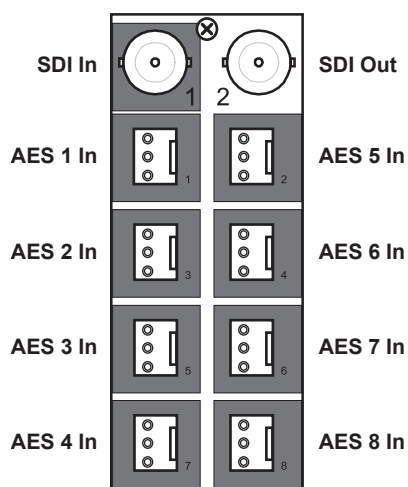

Figure 2.3 Cable Connections for the MUX-8258-B
- **8310AR-034** Rear Module — Each rear module occupies one slot and accommodates one card. This rear module provides one SDI input, one SDI output and eight balanced AES inputs. (**Figure 2.3**)
- **8320AR-034** Rear Module — Each rear module occupies two slots and accommodates one card. This rear module provides one SDI input, one SDI output, and eight balanced AES inputs. (**Figure 2.3**)